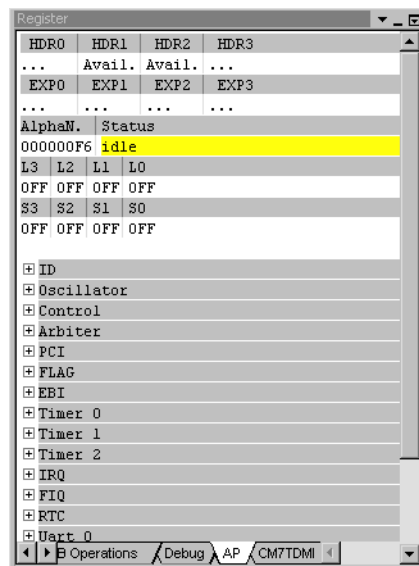

Figure 3-22 AP tab in the Register pane
2. Click on the **AP** tab. RealView Debugger shows the abstraction of the hardware information specific to the Integrator/AP board, shown in Figure 3-22.